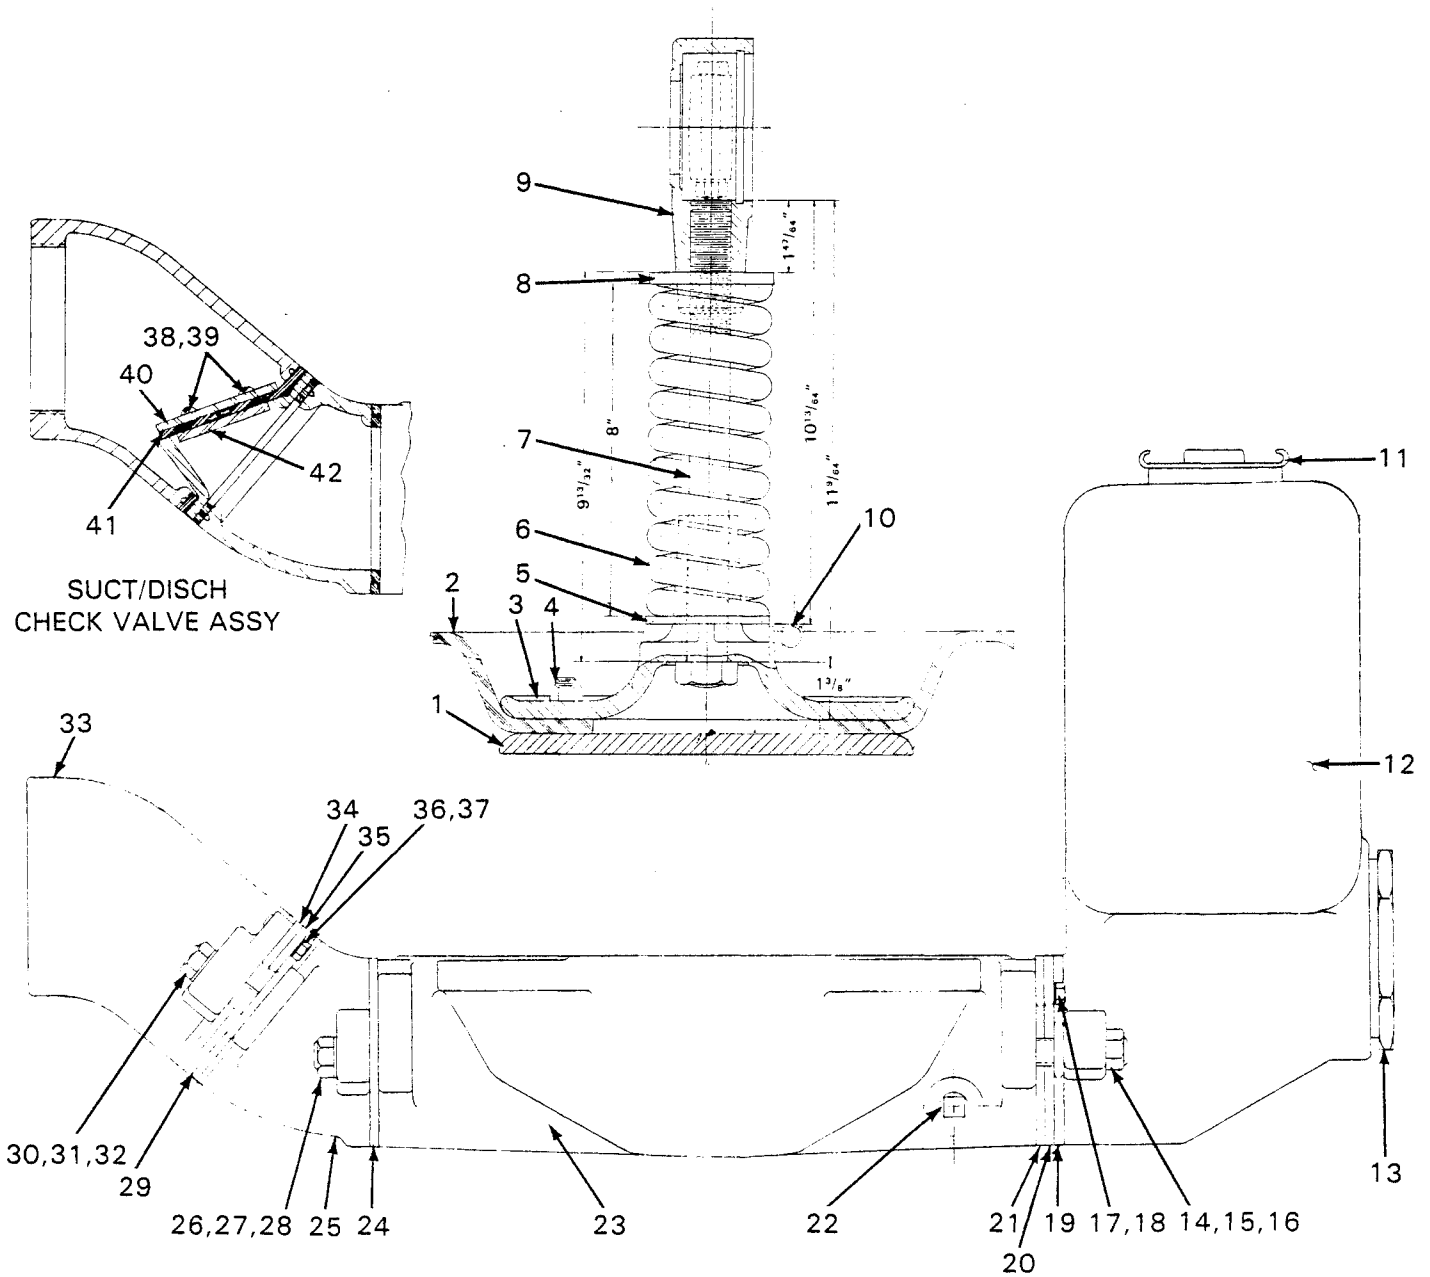

Figure 2. 46475-702 Diaphragm Pot Assembly
Close all connecting valves, and drain the pump by removing the diaphragm pot drain plug (22, figure 2). Clean and reinstall the drain plug.
To remove the plunger rod assembly (8), disengage the bearing cap (9, figure 2) securing the assembly, retaining the end cap (10, figure 1).
Diaphragm Pot Disassembly (See figure 2)
Plunger Rod Disassembly (See figure 2)